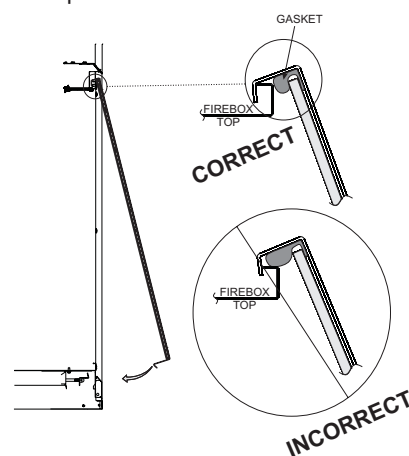

Figure 90
1. When installing the Glass Door assembly, make sure that the door top flange is hooked over the firebox top flange as illustrated in the "Correct" view in **Figure 90**.
Important: Do not allow the gasket across the top of the door to roll up on top of the firebox flange as shown in "Incorrect" view in Figure 90.